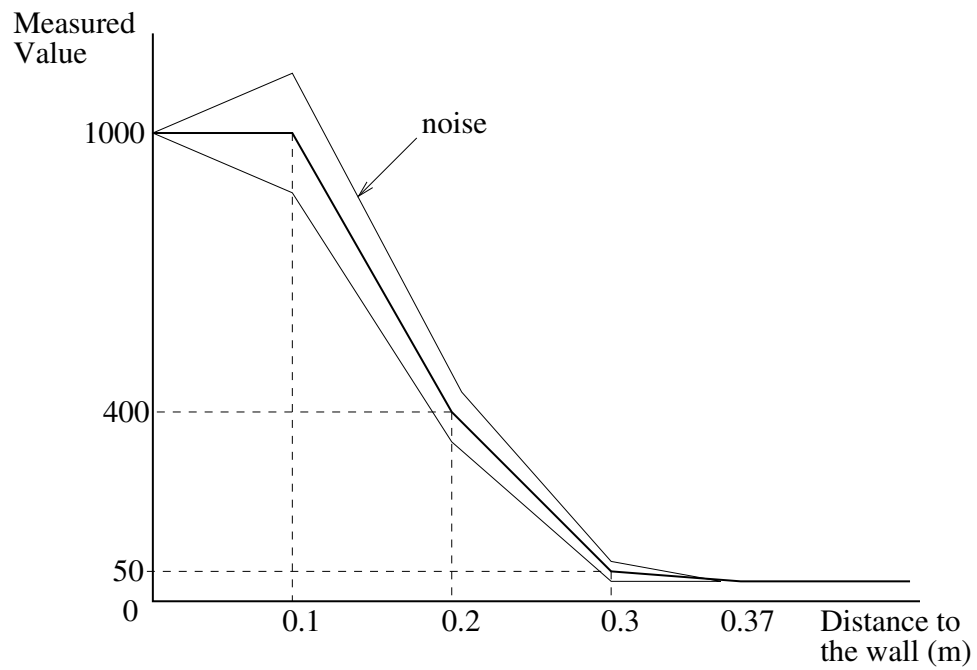

Figure 3.9: Sensor response versus obstacle distance
The above lookup table means that for a distance of 0 meters, the sensor will return a value of 1000 without noise (0); for a distance of 0.1 meter, the sensor will return 1000 with a noise of standard deviation of 10 percent (100); for a distance value of 0.2 meters, the sensor will return 400 with a standard deviation of 10 percent (40), etc. Distance values not directly specified in the lookup table will be linearly interpolated. This can be better understood in figure 3.9 below.